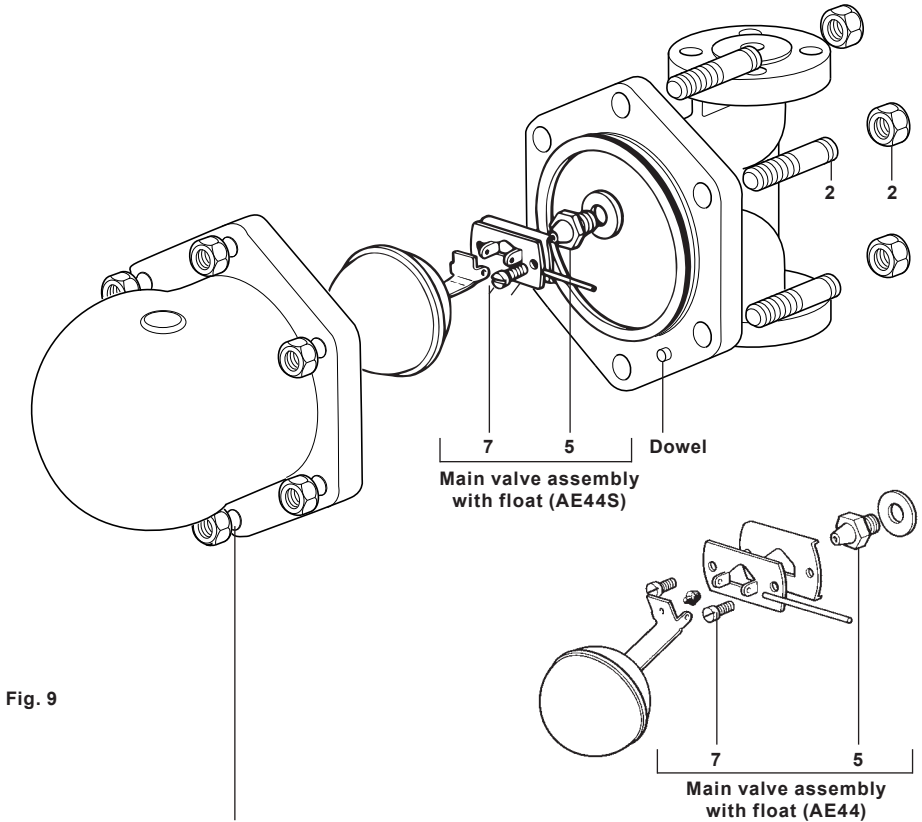

Fig. 9
- Once the eliminator has been isolated, undo the cover studs and nuts (2) and lift off the cover (4).
- Remove the existing main valve assembly with float, by undoing the pivot frame assembly set screws (7), and the valve seat (5) and assess if it needs cleaning or replacing.
- The soft valve cone (item 9, AE44 only) is easily changed once the float (8) has been removed.
- Using a little jointing paste on the thread and gasket (6), fit the valve seat (5) to the body (1).
- Attach the support frame (15) and pivot frame (16) to the body (1) using the assembly set screws (7) but do not tighten.
- Fit the float arm (8) to the pivot frame (16) using the pin (17) and by moving the complete assembly, centre the valve cone onto the seat orifice. Tighten the assembly set screws (7) to the recommended torque (see Table 1).
- When reassembling the cover (4) to the body (1) make sure that all joint faces are clean. Always use a new gasket (3).
**Note:** On reassembly make sure that the dowel (see Figure 9) is located into the body.
- Tighten the cover studs and nuts (2) uniformly to the recommended torque (see Table 1).